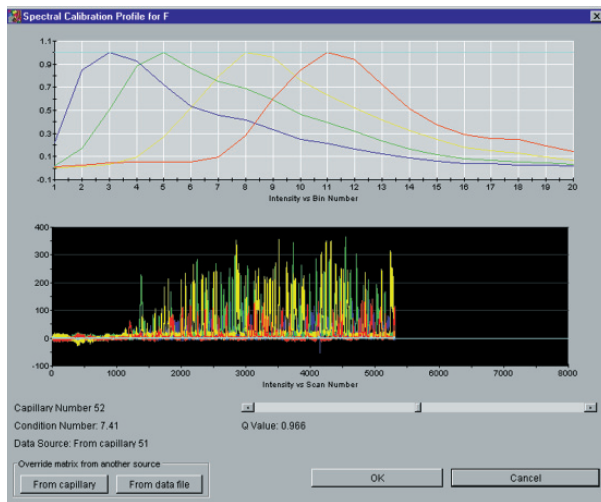

Fig 2. Spectral calibration profile for F using POP-5 with the ABI 3700.
9. Select **F** from the pull-down menu (**IMPORTANT!**). Click **OK**. This action opens the dialog window titled **Spectral Calibration Profile for F**. The fluorescence emission spectra for all four dyes in a particular capillary will be displayed as shown in Figure 2.
10. Examine the results for each cap and verify that the profile is similar to that shown in Figure 2.
10. Select **F** from the pull-down menu (**IMPORTANT!**). Click **OK**. This action opens the dialog window titled **Spectral Calibration Profile for F**. The fluorescence emission spectra for all four dyes in a particular capillary will be displayed as shown in Figure 2.
11. Examine the results for each cap and verify that the profile is similar to that shown in Figure 2.
12. Select **F** from the pull-down menu (**IMPORTANT!**). Click **OK**. This action opens a dialog window titled **Spectral Calibration Profile for F**. The fluorescence emission spectra for all four dyes in a particular capillary is displayed as shown in Figure 2.